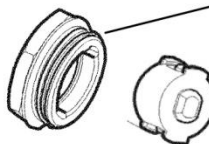

Fig 3
5. Correctly orientate the insert and clip back into position. (Figure 3)